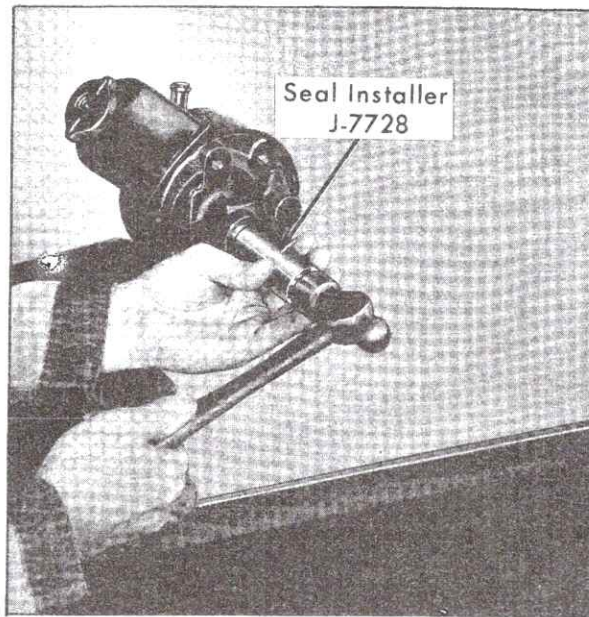

Fig. 9-21 Installing Pump Shaft Seal
7. Install seal, using Pump Shaft Seal Installer, J-7728, Fig. 9-21. Tap tool lightly with small hammer until seal is properly seated in shaft hub.